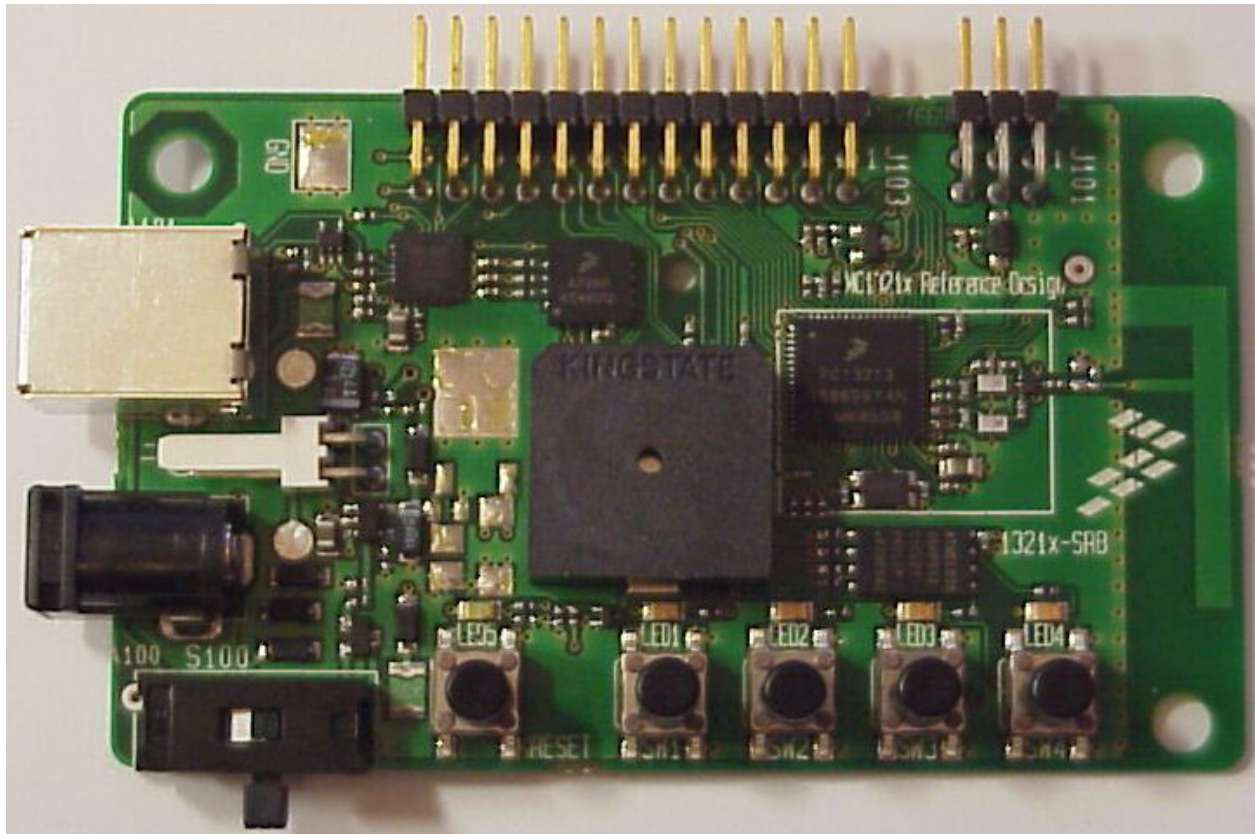

Figure 2-2. 13213-SRB
2. 13213-SRB Sensor Reference Board as shown in Figure 2-2.